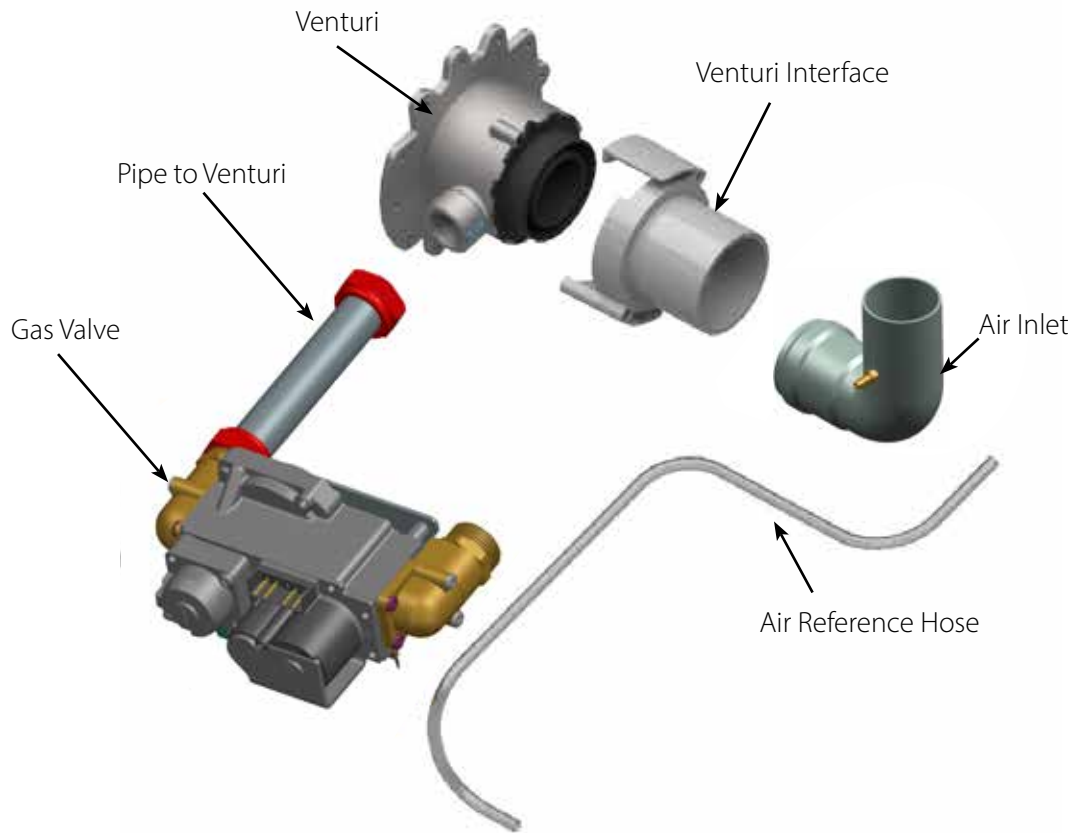
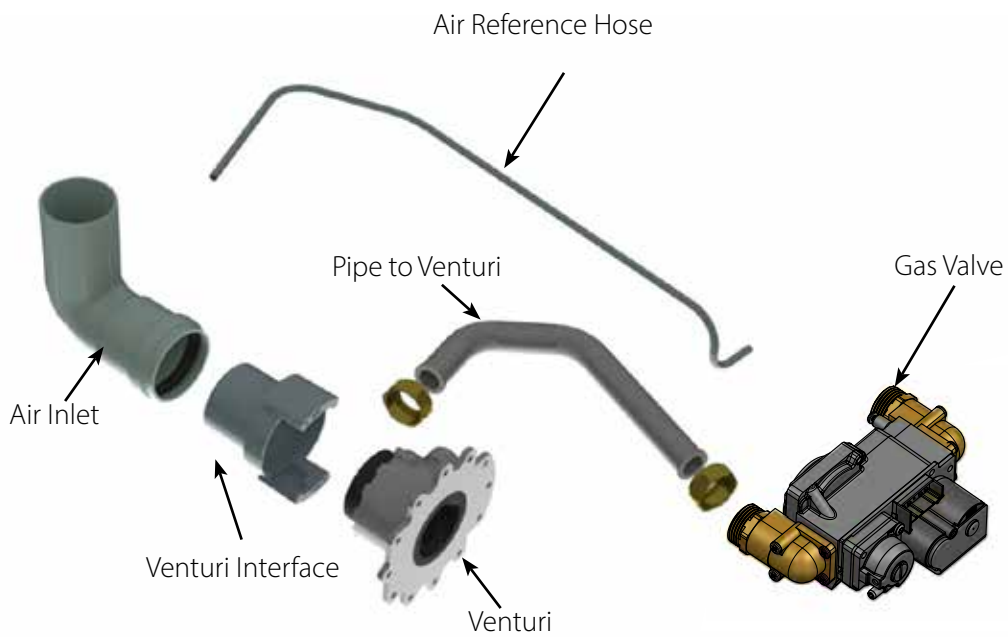
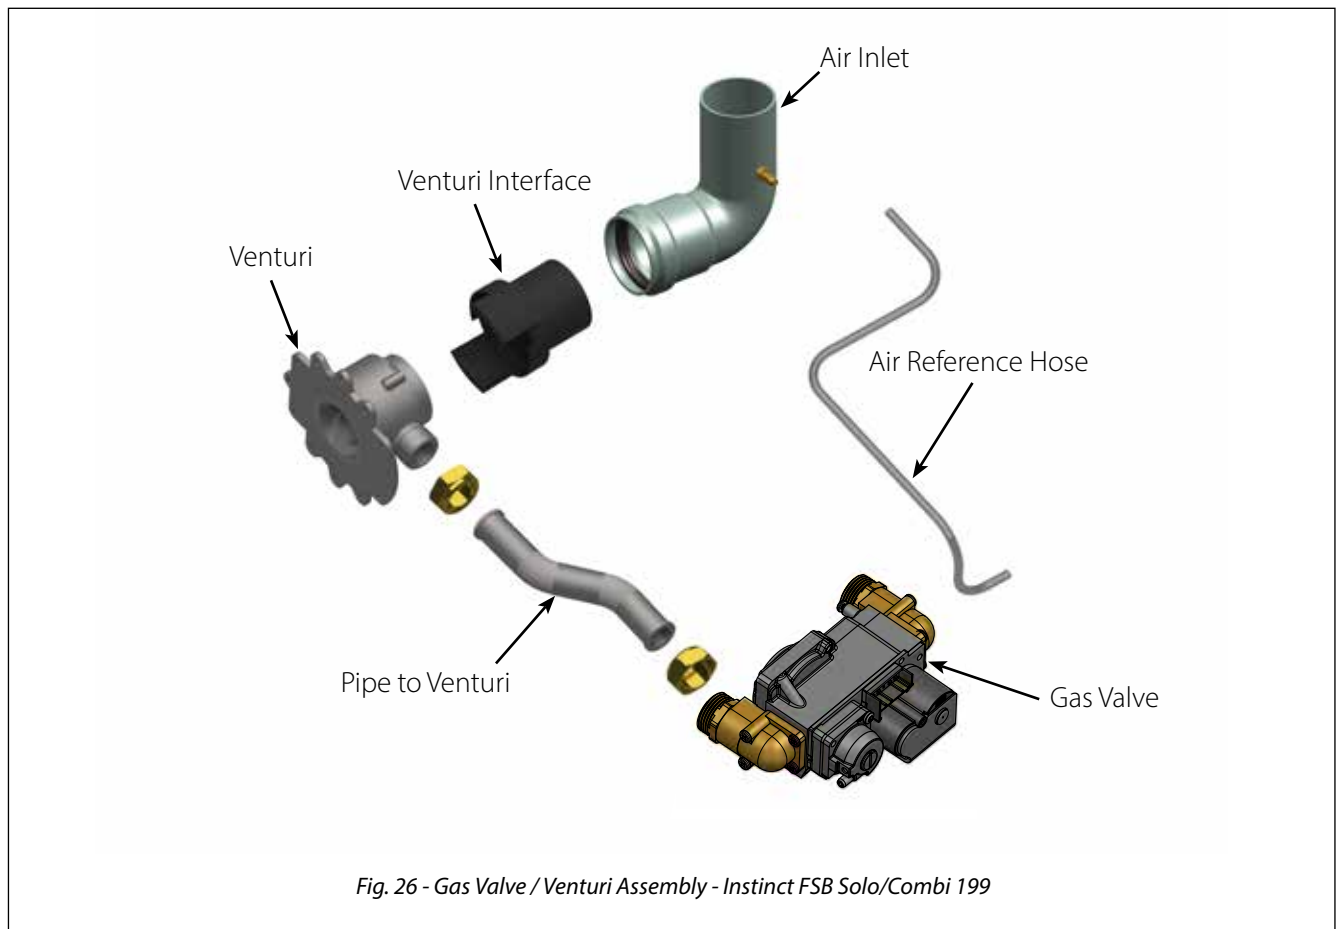

Fig. 24 - Gas Valve / Venturi Assembly - Instinct FSB Solo 110
Fig. 25 - Gas Valve / Venturi Assembly - Instinct FSB Solo/Combi 155
Fig. 26 - Gas Valve / Venturi Assembly - Instinct FSB Solo/Combi 199
- Prior to start up, ensure the unit is set to fire propane. Check the rating label for the type of fuel. Check the venturi for propane conversion label. If there is a conflict or doubt on the burner configuration, remove the venturi and check for proper propane gas orifice sizing on venturi labeling. Refer to Tables 1 and 3 below. See Fig. 24, Fig. 25 & Fig. 26 for venturi location. Refer to Propane Conversion Instructions for proper removal and replacement of the venturi.